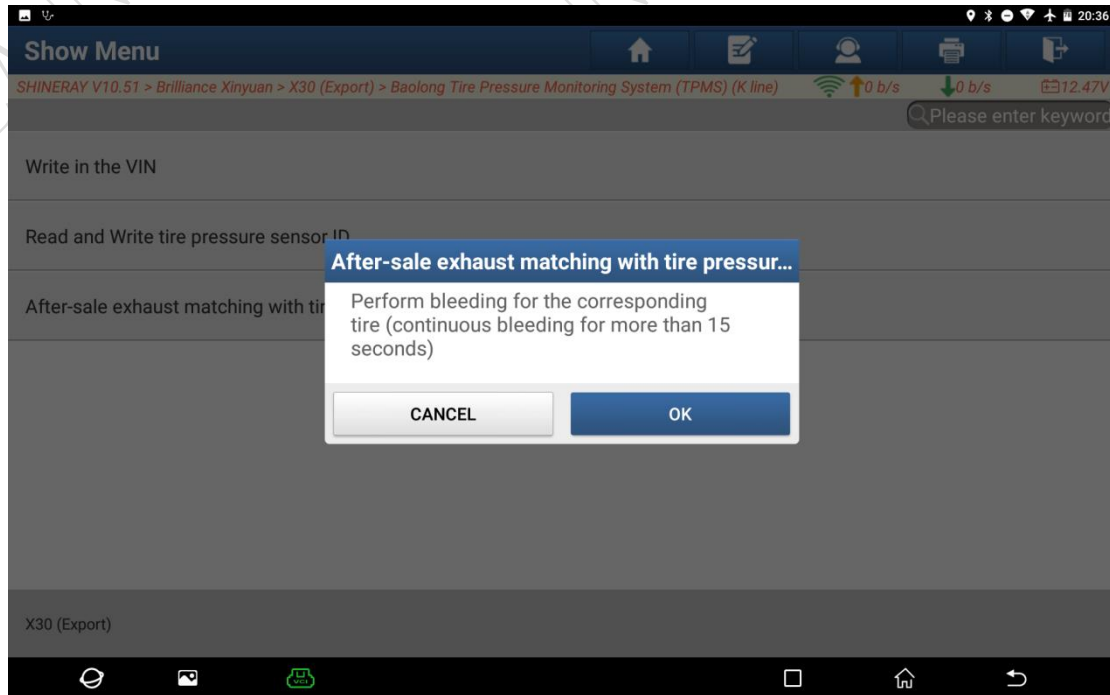

Figure 10
10. Follow the prompts to bleed the FL wheel and click [OK] to continue, as shown in Figure 10.